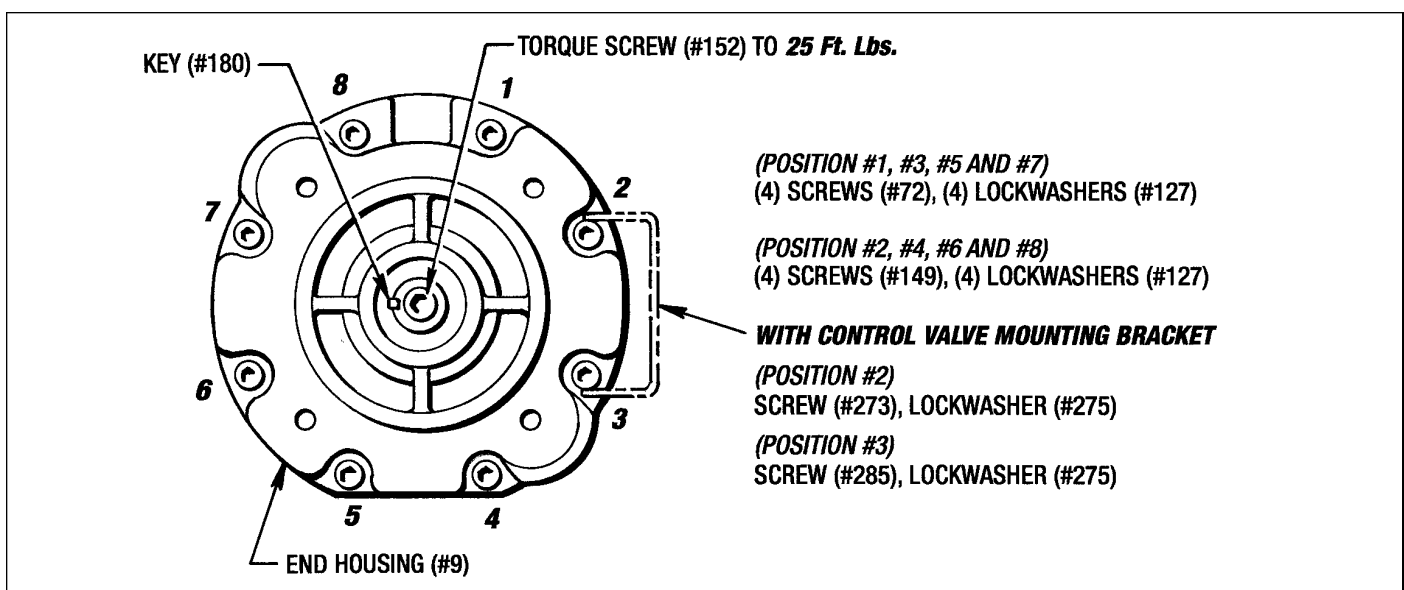

Figure 9.7 - Installing End Housing (#9)
1. Put the Gasket (#122) on the Piston Housing (#10) mounting face. Use the (2) Pins (#158) for locating the gasket. **Do not use any Gasket Sealant on this gasket.**
3. Very carefully slide the End Housing (#9) over the Hub (#2) and attach it to the Piston Housing (#10) with the appropriate mounting screws and lock-washers. (See Figure 9.7) Use the (2) Pins (#158) for positioning.